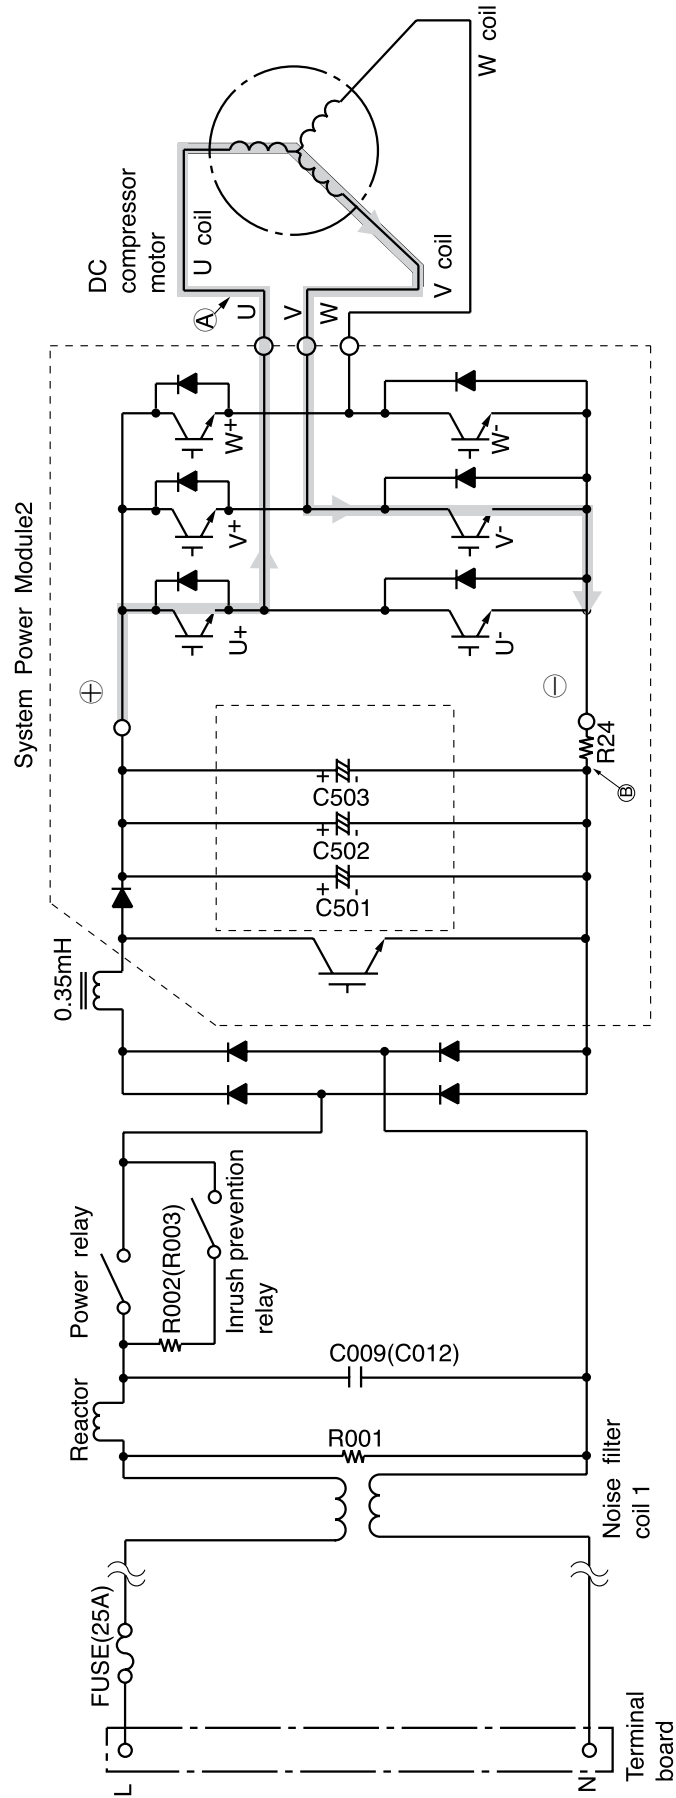

Fig. 3-1 Power module circuit (U⁺ is ON, V⁻ is ON)
- RAM-70QH4 and RAM-80QH4 have two power module circuits as shown in Fig. 3-1 because of providing for two cycles and two compressors style.